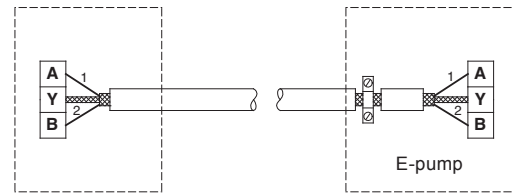

Fig. 57 Connection with screened 2-core cable
- If a screened 2-core cable is used in the existing installation, it must be connected as shown in fig. 57. Make sure that the "pig's tail" is as short as possible.